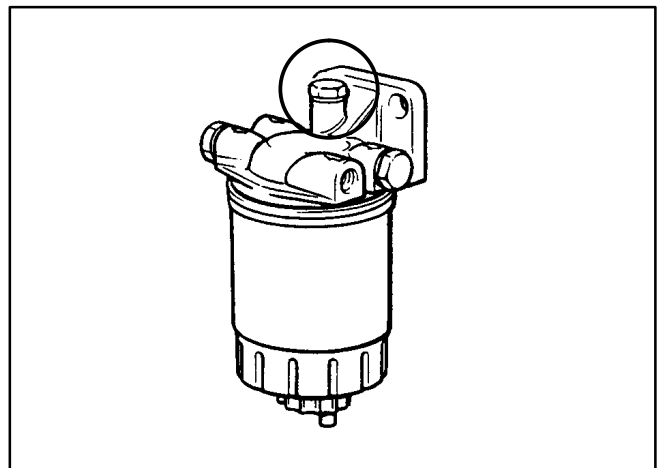

FIGURE 8-37. FUEL FILTER BLEED SCREW
2. Open the fuel filter bleed screw on the fuel filter adapter (Figure 8-37) while operating the fuel lift pump by hand. Close the bleed screw when all air has been expelled.